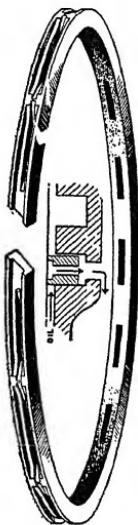

Fig. 8. Super-
**Piston Rings.** Originally there were two types of rings which were considered good. However, the three rings shown in Figs. 8, 9, and 10 are the three different types of piston rings in common use today.